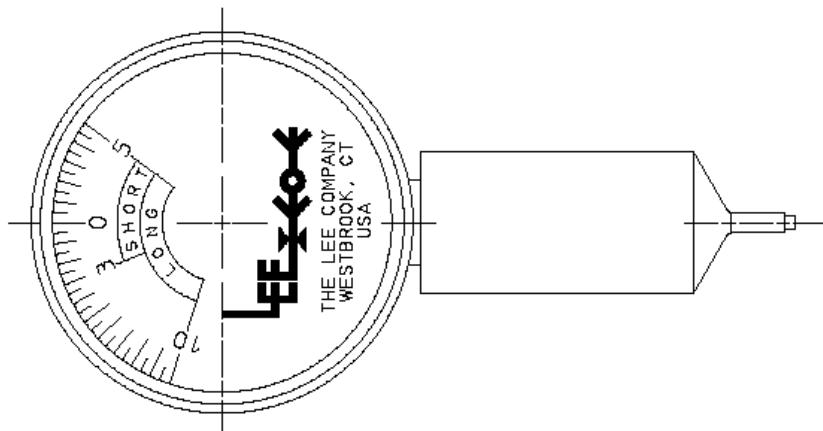

FIGURE 11
4. Start the pin, **small end first**, into the tapered hole of the plug. **Avoid tilting the pin**. Press or drive the pin with the proper installation tool (see Table 3 on Sheet 24 or Table 4 on Sheet 25) until the end of the pin is flush with the end of the plug within the tolerances indicated in Table 6 on Sheet 29. The Lee Plug Installation Gauge may be used to measure flushness (see Figure 11 on Sheet 29).
4. Press or drive the pin with the proper installation tool (see Table 3 on Sheet 24) until the end of the pin is flush with the end of the plug within the tolerances indicated in Table 6 on Sheet 29. The Lee Plug Installation Gauge may be used to measure flushness (see Figure 11 on Sheet 29).